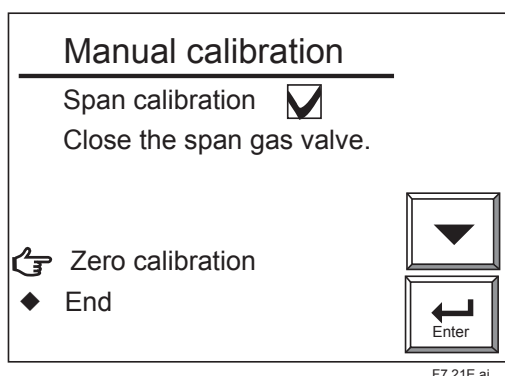
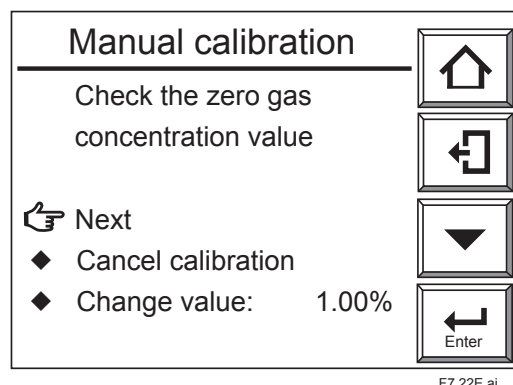

Figure 7.32 Span Calibration Complete
Figure 7.33 Zero Gas Concentration
- (5) After the measured value has stabilized, press the [Enter] key to display the "Span calibration complete" display shown in Figure 7.32. At this point, the measured value is corrected to equal the span gas concentration setting. Close the span gas flow valve. The valve lock nut should be tightened completely so that the span gas does not leak.
- (6) Select "Zero calibration" as in Figure 7.32 to display the zero gas concentration check display (Manual calibration). Check that the zero gas oxygen concentration value and the calibration gas oxygen concentration value agree. Then select "Next" as in Figure 7.33.